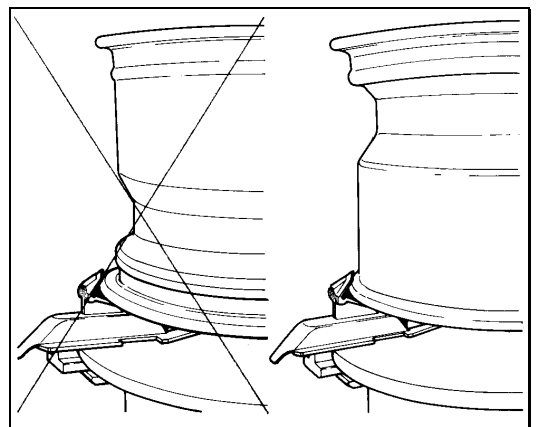

Fig.13
**D.** Liberally lubricate both beads. Place the wheel **WITH DROP CENTER UP** (Fig.13) on the turntable, and clamp in position. Hold the tire and wheel down while clamping.